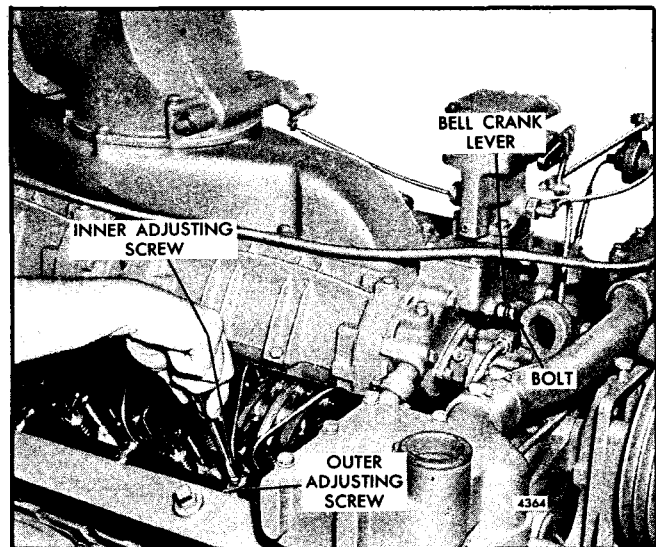

Fig. 2 - Positioning No. 1R Rack Control Lever
6. Adjust the No. 1R injector rack by turning the inner adjusting screw down until it bottoms on the control tube (Fig. 2). Turn down the outer adjusting screw until it also bottoms on the control tube. Then